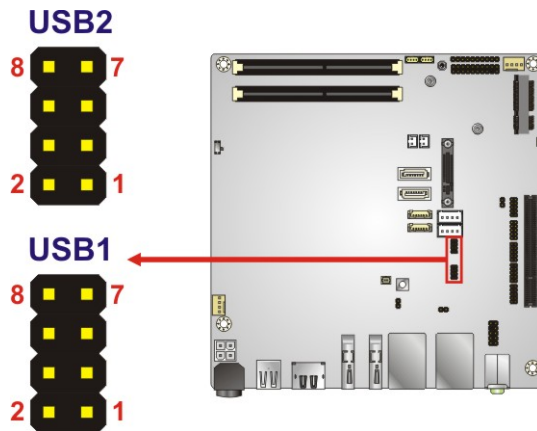

Figure 3-25: USB Connector Locations
- CN Location:** See **Figure 3-25**